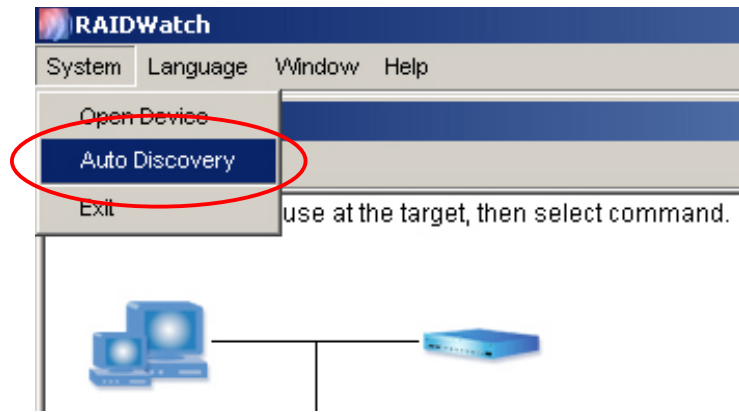

Figure 6-8: Start Auto Discovery Function
- Step 5.** If you like the system to search the available RAID systems again, pull down the **System** command menu and select **Auto Discovery**. (See *Figure 6-8*) The new search result will be showing in the Agent List Window.